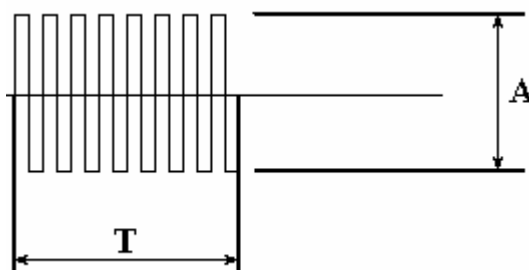

Fig. 23 Evaluation of the pulse packet repetition frequency
14.3.1.4 Measure the excitation pulse A-range (Fig. 23) of one pulser output (7 or 8) relative to the common point, using the oscilloscope's CRT. This value corresponds to the excitation pulse amplitude measured between the two pulser outputs.
14.3.2.4 Measure the T (s) length of the excitation pulse packet at the C1-99 oscilloscope's CRT as depicted in the Fig. 23 and determine the number of packet periods (N). Estimate the pulse repetition frequency F, Hz, using the formula:  $F=N/T$ .